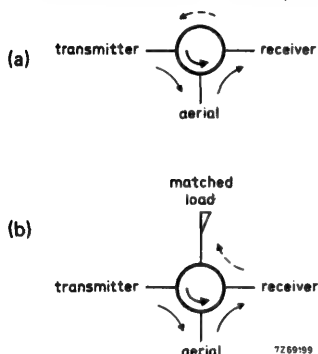

Fig. 3 Duplexing one receiver and one transmitter with (a) a 3-port circulator and (b) a 4-port.
The main application of circulators is the duplexing of systems for simultaneous transmission and reception in low and medium-power telecommunication equipment; this is illustrated in Figs 3 and 4.
- a 4-port circulator (of which the fourth port is provided with a matched load, Fig. 3(b)), however, does not require a very accurately matched receiver, so that a much simpler filter can be used on the receiver input.